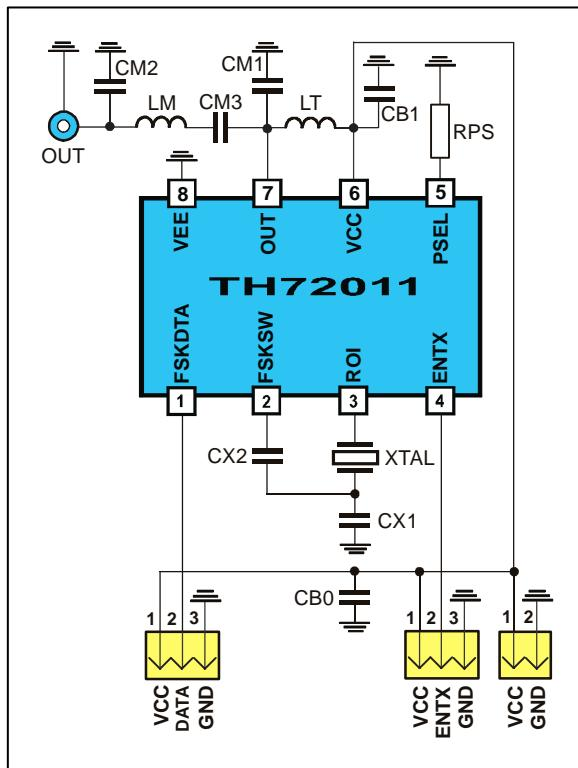

Fig. 18: Test circuit for FSK with $50\ \Omega$ matching network
typical values at $T_A = 23^\circ\text{C}$ and $V_{CC} = 3\text{ V}$; test circuit shown in Fig. 18, $f_c = 433.92\text{ MHz}$
- Data according to test circuit in Fig. 18
6.1 Test circuit component list to Fig. 18